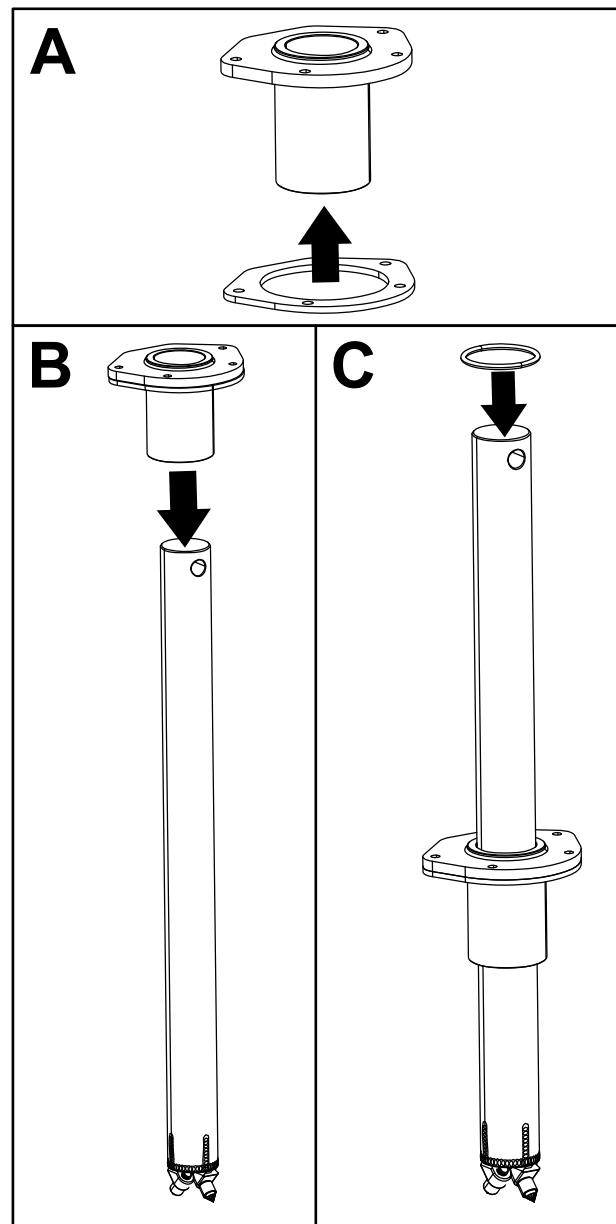
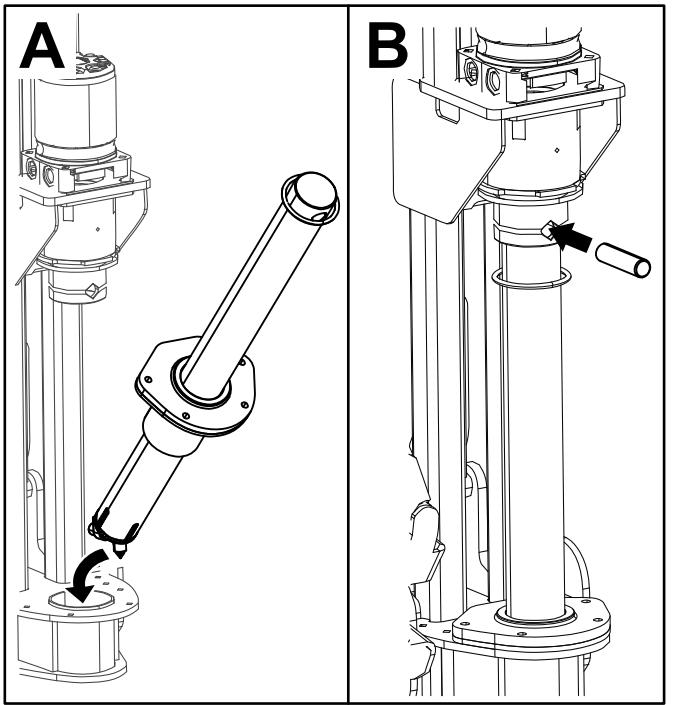
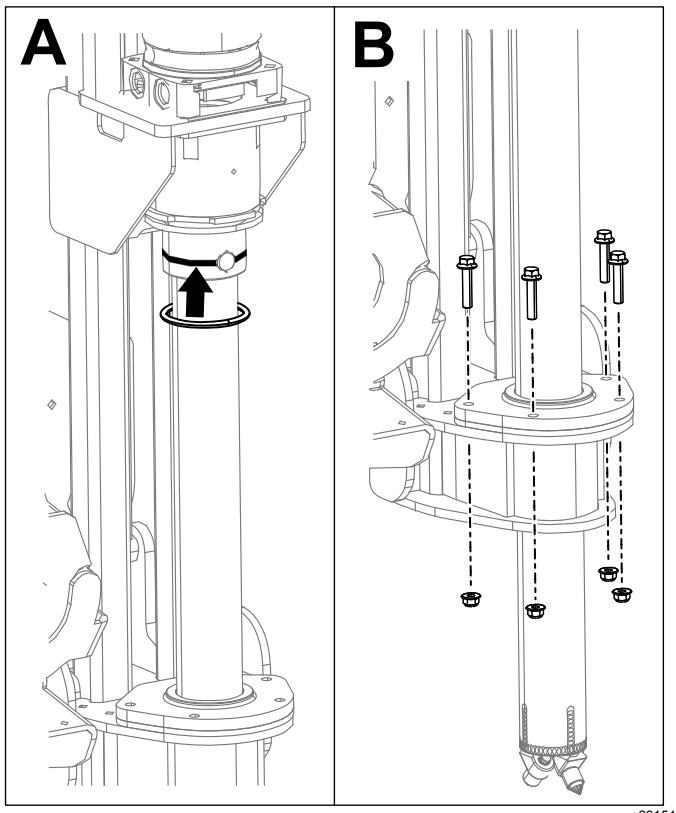

Figure 3
Figure 4
Figure 5
1. Slide the stake guide and spacer plate over the top of the rock stake as shown in Figure 3.
2. Place the O-ring over the stake and place the stake on the machine as shown in Figure 3 and Figure 4.
3. Align the hole in the stake with the hole in the motor and secure it with the pin and O-ring (Figure 4 and Figure 5).